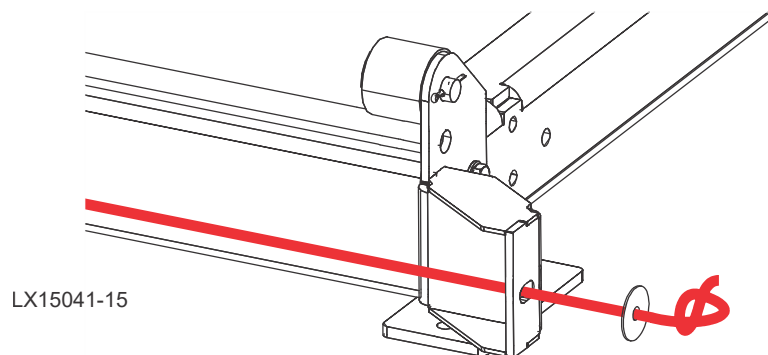

FIG. 3-16
3. Tie a knot in the rope at that end as shown in Figure 3-16.
See Figure 3-16.